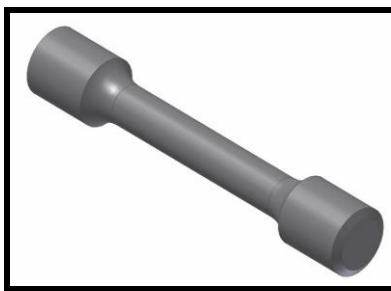
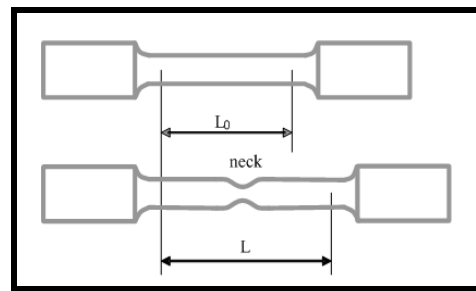

Figure-3: Schematic diagram of a tensile test piece.
Figure-4: Representation of a tensile test piece before & after the test
There are many standard types of tensile test specimens. One such specimen is schematically shown in figure-3. The standard test piece is an accurately machined specimen. Overall length is not a critical item, but the diameter (d) and gauge length (L) are critical. Generally the gauge length is four times the diameter of the specimen ($L=4d$). The physical change in shape of the tensile test is shown in figure-4. The difference in the gauge length between before & after the test measures the **Elongation** of the metal.